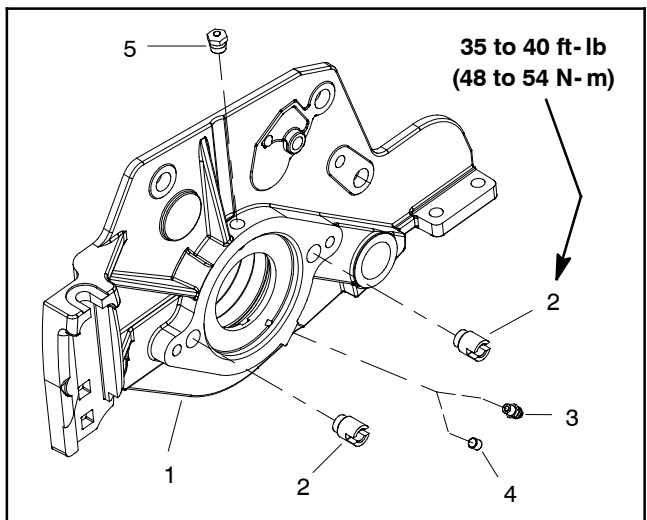

Figure 19
The cutting unit side plates (Fig. 19) have threaded inserts at the locations used for the cap screws that secure the reel motor. Check the condition of the threaded inserts whenever the cutting reel motor is removed and replace inserts if damage is found. Inserts should be torqued from **35 to 40 ft-lb (48 to 54 N-m)** during installation.
For proper lubrication of the reel motor splines, a grease fitting (item 3 in Fig. 19) must be installed in the cutting unit side plate on the reel motor side of the cutting unit. On the non-drive side plate, a set screw (item 4 in Fig. 19) should be installed so that it is flush with the side plate surface.